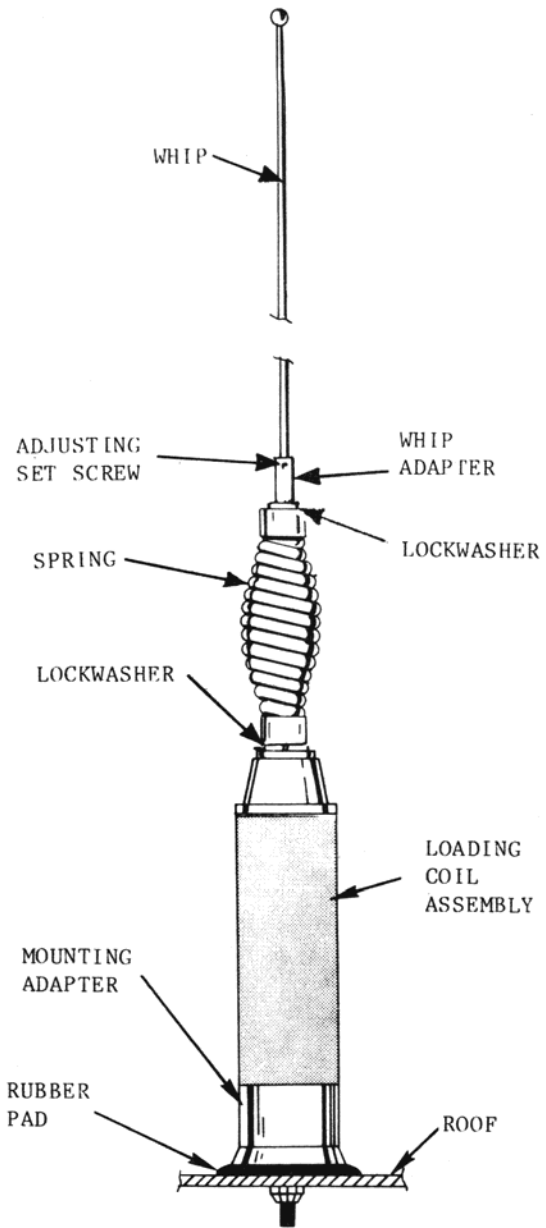

FIGURE 14
13. Screw the loading coil onto the mounting adapter, and assemble all other components onto the loading coil as shown in Figure 14.